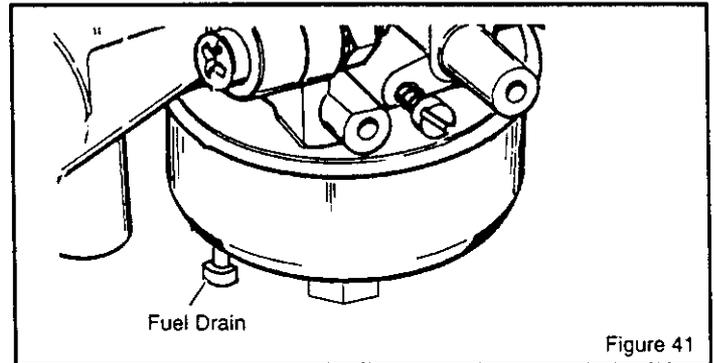

Figure 41
3. Do not leave fuel in the fuel tank or the carburetor. The fuel can damage the function of the fuel system. Some models have a fuel drain (Figure 41). Hold a cloth under the fuel drain. Push the fuel drain until the carburetor is empty.